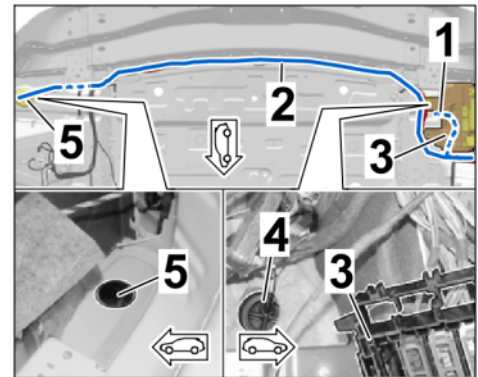

Figure 33
3.2.4 Rear end plate area and grommet/stopper for luggage compartment floor (⇒ *Figure 33*)
- Branch for exhaust flap (left) to grommet/stopper for luggage compartment floor, left (beneath fuse box in luggage compartment (left) → branch for exhaust flap on the right of the rear end plate → along rear end plate (⇒ *Figure 33 -top-*) → grommet/stopper for luggage compartment floor, right.